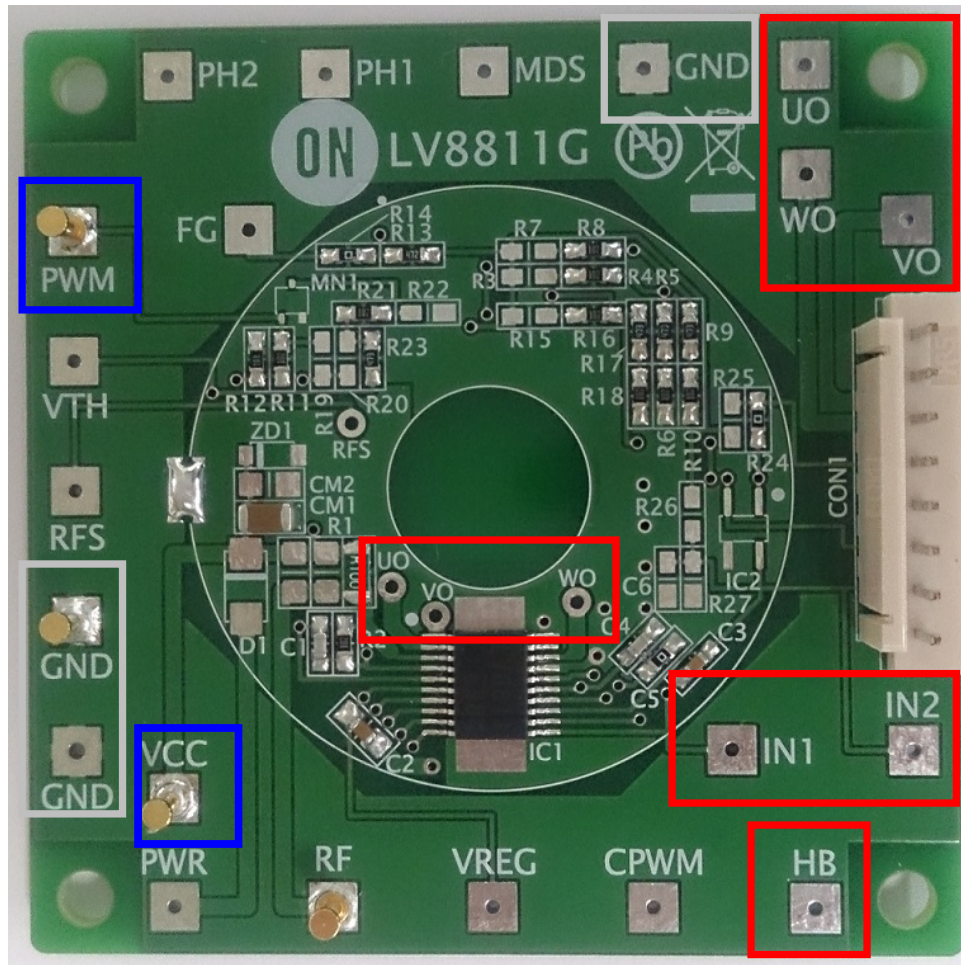

Figure 2. Key Input/Output Highlighted
- step 2. Connect PWM signal to PWM pin of the board. The connection points, described in step 1 and 2, are shown in figure 2 and 3.